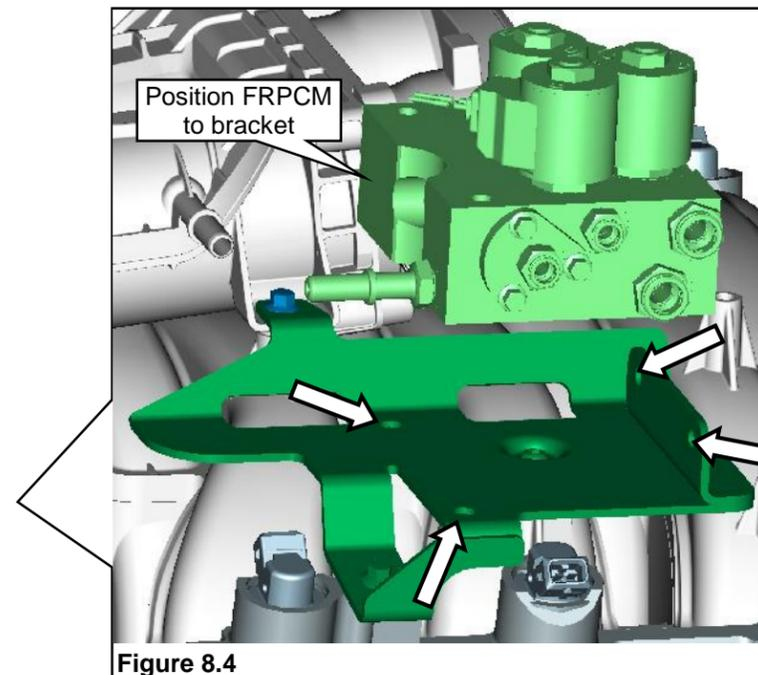

Figure 8.4
3. Position the FRPCM to the bracket and align the four holes. **Figure 8.4.**